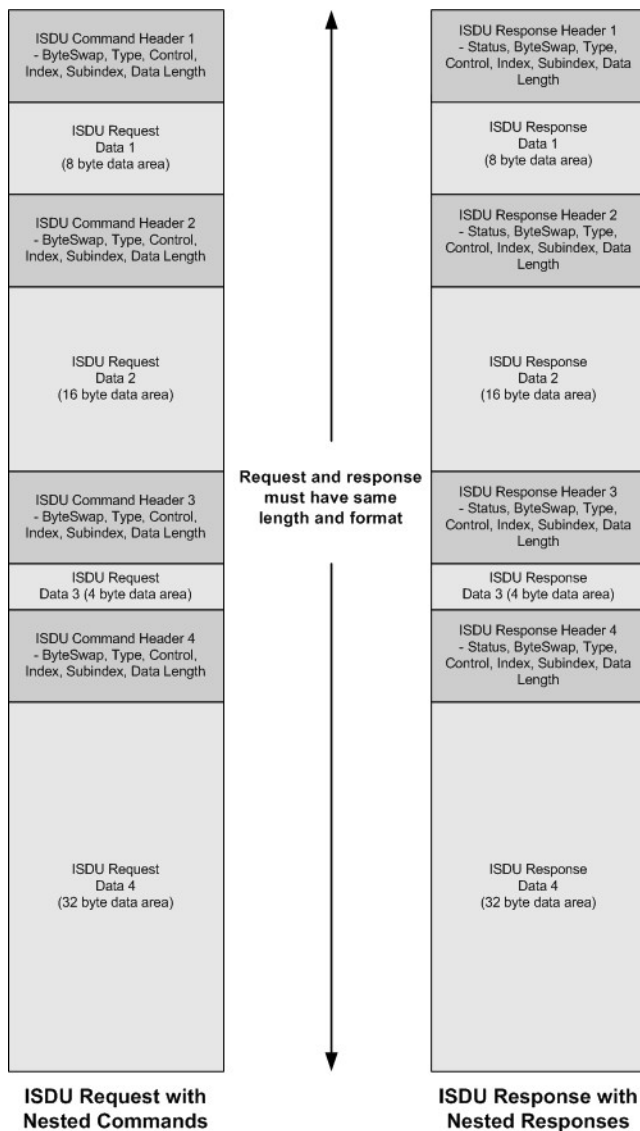

Figure 62: Example – Multiple Command ISDU Request/Response of Different Data Area Lengths
- *Figure 62: Example - Multiple Command ISDU Request/Response of Different Data Area Lengths*